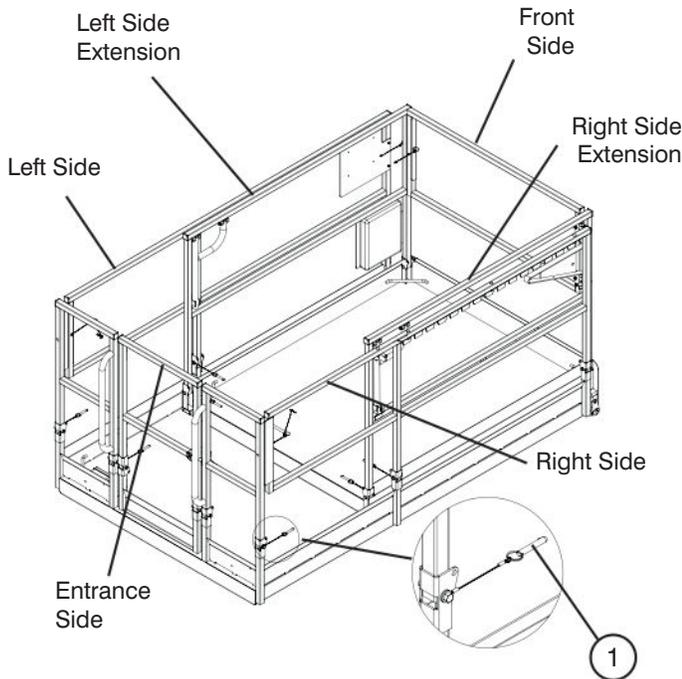

Figure 3-10a. Folding Guardrail System
8. Fold down guardrails in the following order: front, right extension, left extension, right-side, left-side and entrance (refer to Figure 3-10a).